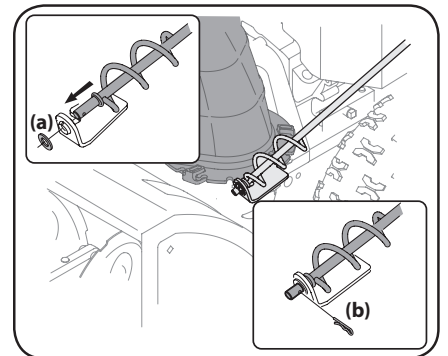

Figure 2-9
1. Remove plastic cap (if present), flat washer (a) and hairpin clip (b) from end of chute directional control assembly. See Figure 2-9.